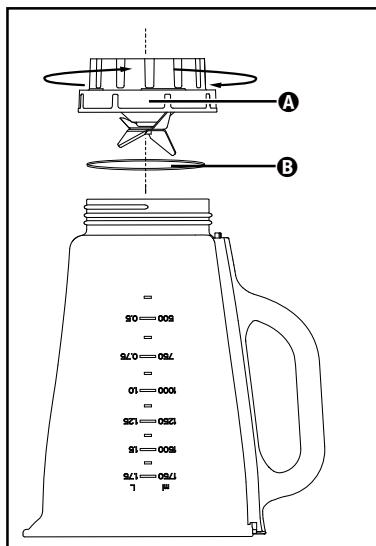

Fig. 3
- 2) Turn the appliance upside down and turn the attachment **④** with the cutting blades **④** anticlockwise so that it can be detached from the blender jug **③** (see fig. 3).